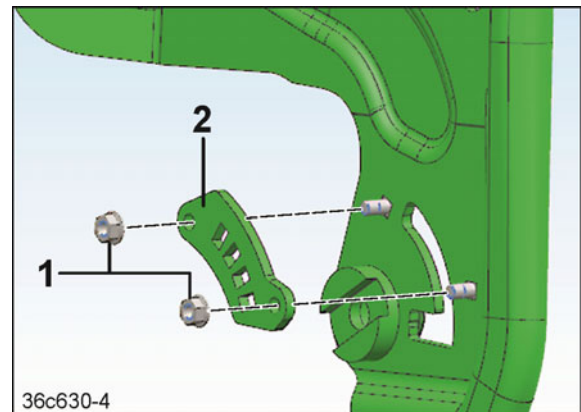

Fig. 309
4. Loosen 2 lock nuts M 8 (Fig. 309/1)
5. Replace the grid (Fig. 309/2).
6. Put on 2 lock nuts M 8 (Fig. 309/1) and tighten them